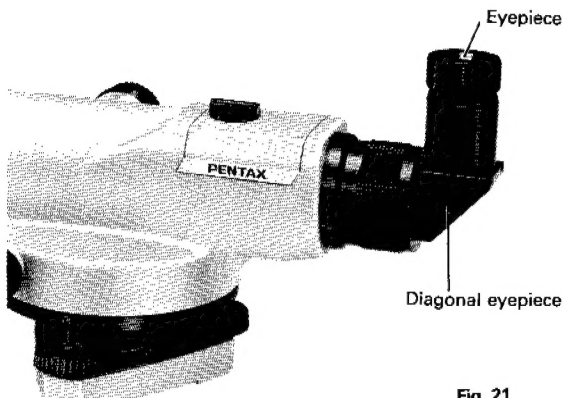

Fig. 21
- ② Screw the diagonal eyepiece in to the attaching screw of the eyepiece cover.
- ③ Looking into the eyepiece lens of the diagonal eyepiece, collimate the reticle. (Fig. 21)